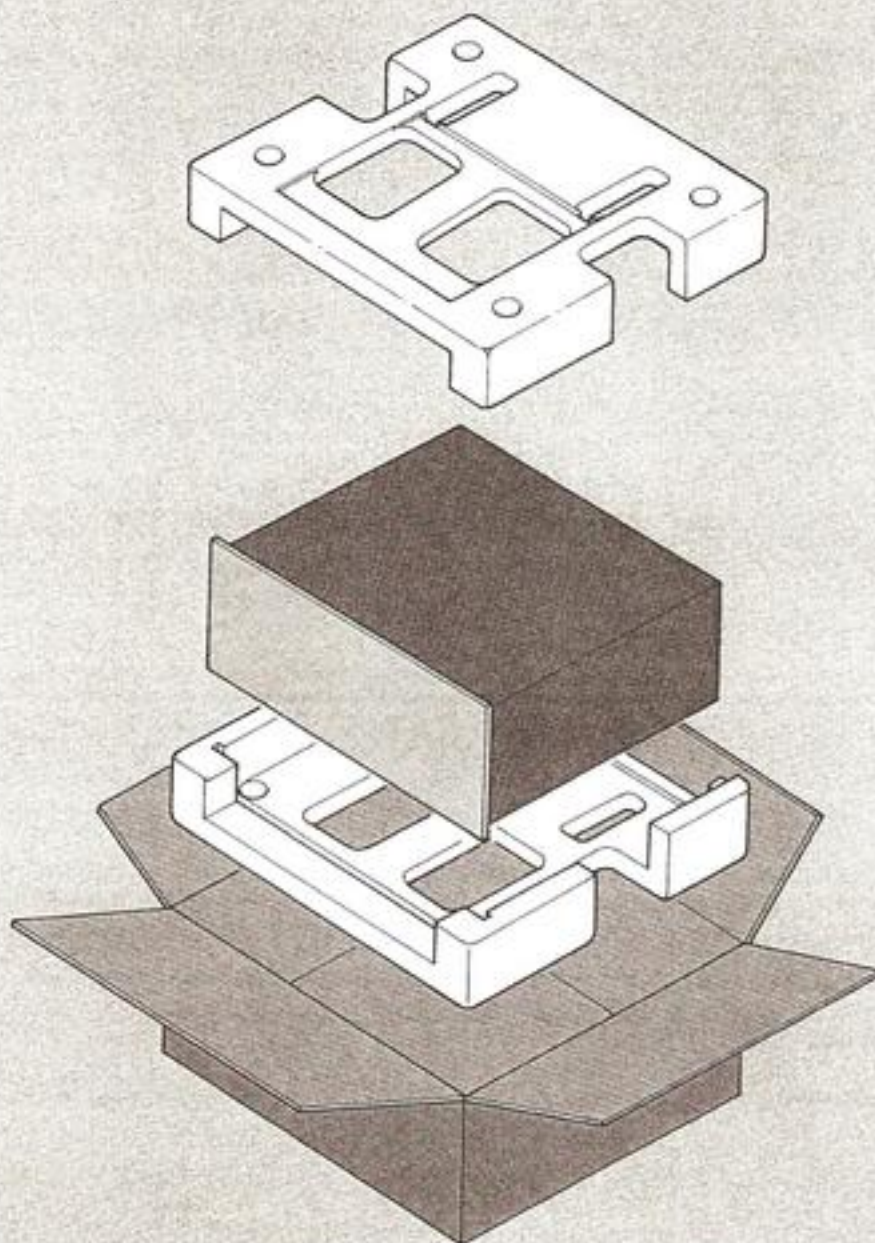

Figure 13. Packing Instructions
- b. Pack the unit carefully, using the original material as shown in Figure 13.